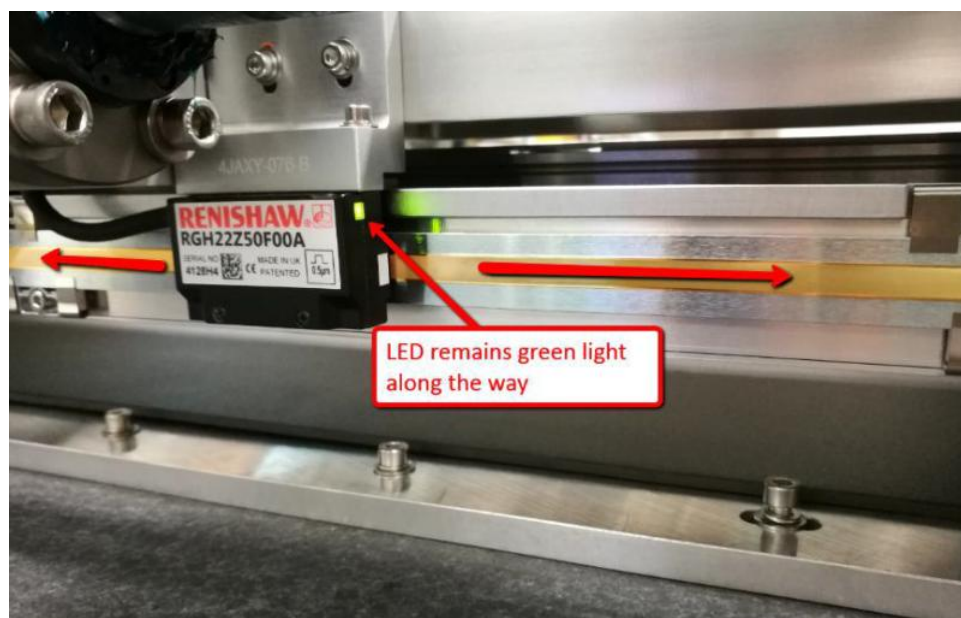

Figure 9 Encoder checking
5. Move X-Axis stage to minimum hard stop (left side) and maximum hard stop (right side). Visual check X-Axis encoder which require green light illuminated along the way as shown in Figure 9. If adjustment require, may refer to “**AXI V810 X-Axis Read Head Encoder Replacement Procedure**”.